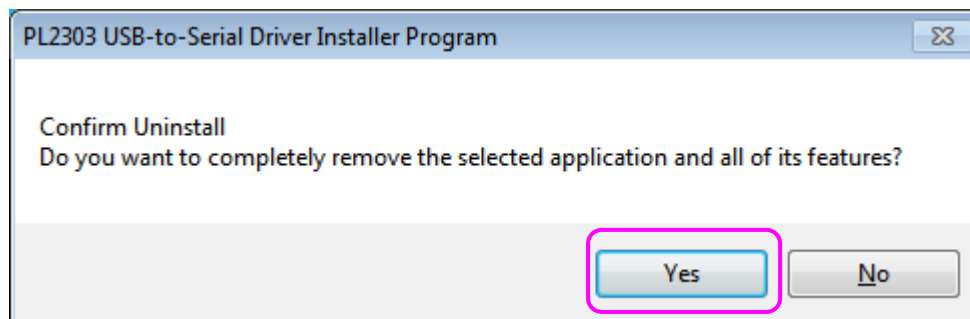

Fig 2-11
Step 2 : Click [Yes]. (Fig 2-11)